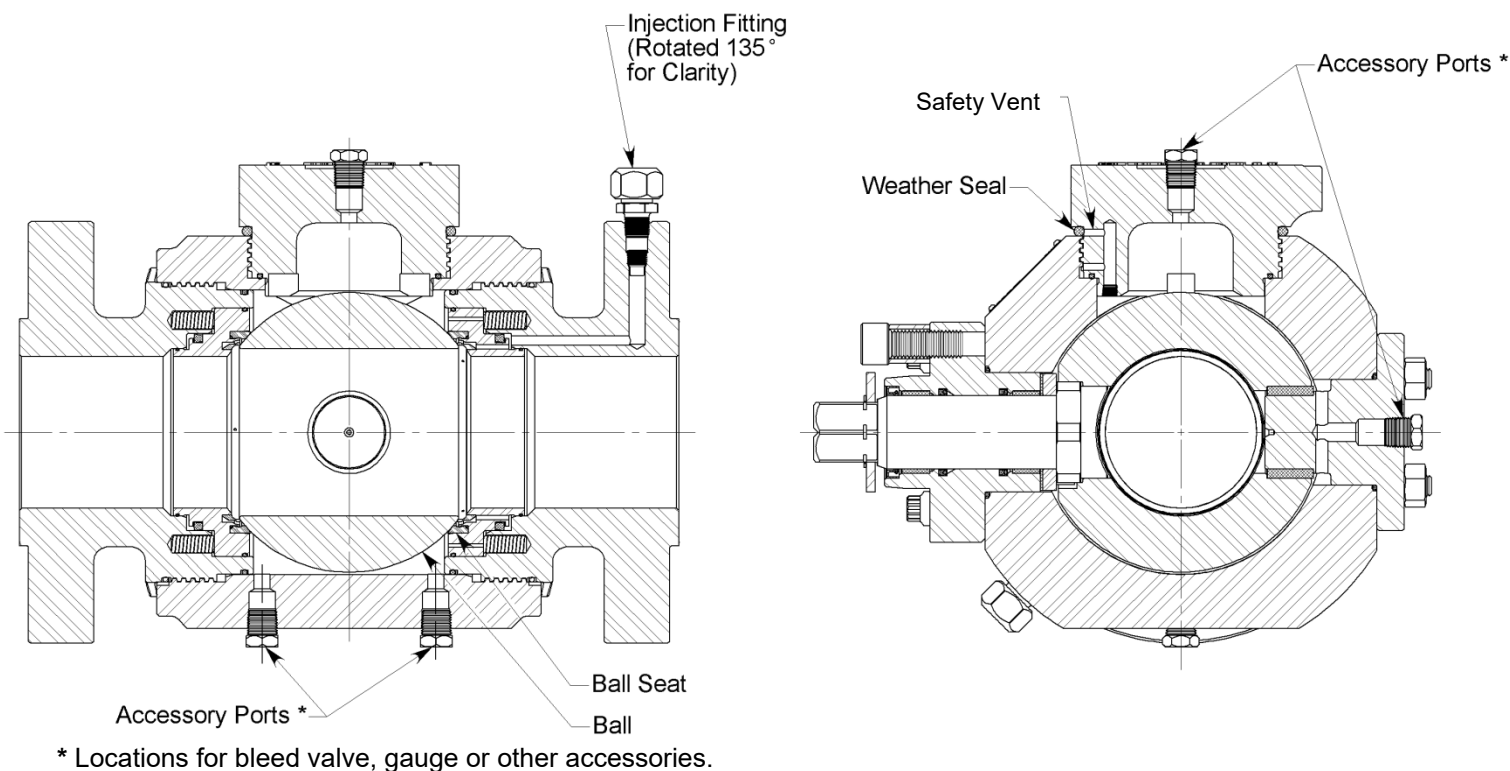

Figure 2: Argus Pig Valve Model "C"
- 5) Ensure that at least one of the accessory ports in the Pig Valve has been equipped with a bleed valve (see Figure 2).
- 4) Slowly loosen entry plug (refer to Figure 3 to determine style of entry plug) by rotating counterclockwise using a “non-spark mallet”, “wrench” or “impact davit”. Observe the safety vent area (covered by the weather seal) at the top of the threads on entry plug (see Figure 2). If there is any media flowing from this area when the entry plug is being loosened, immediately re-tighten entry plug. Repeat steps 3 and 4. If unable to bleed all pressure from body cavity refer to the “Troubleshooting” section in this manual.
- 3) Slowly loosen entry plug (refer to Figure 3 to determine style of entry plug) by rotating counterclockwise using the supplied entry plug wrench. Observe the safety vent area (covered by the weather seal) at the top of the threads on entry plug (see Figure 2). If there is any media flowing from this area when the entry plug is being loosened, immediately re-tighten entry plug. Slowly open bleed valve to valve bleeding pressure and draining fluid from Pig Valve main body cavity. If unable to bleed all pressure from body cavity refer to the “Troubleshooting” section in this manual.